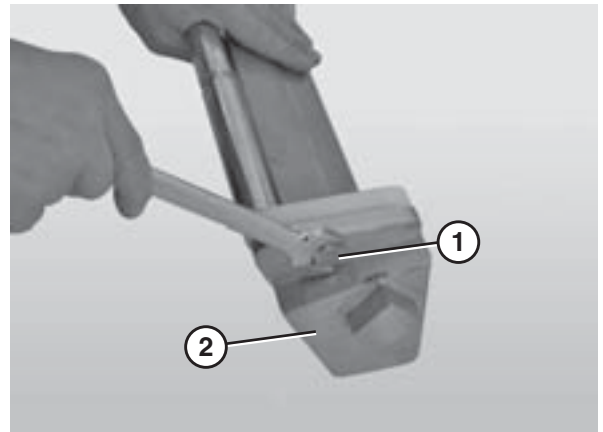

Figure 82
4. Use a 17 mm wrench to remove both pilot nose bolts (Figure 82, item 1) from the nose bar weldment (Figure 82, item 2).